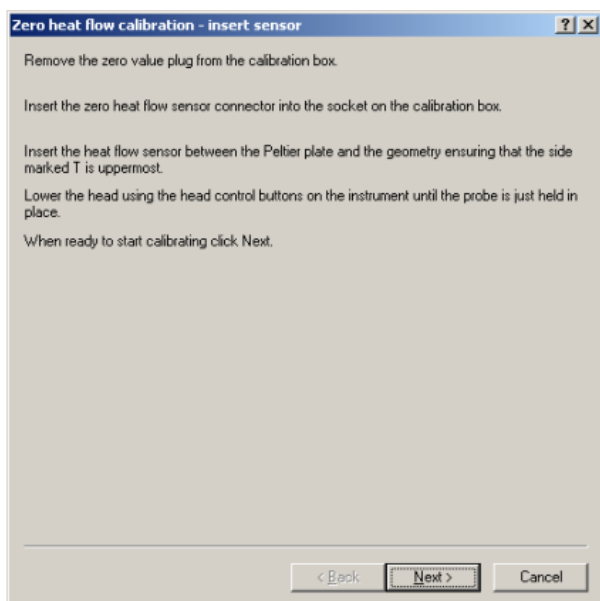
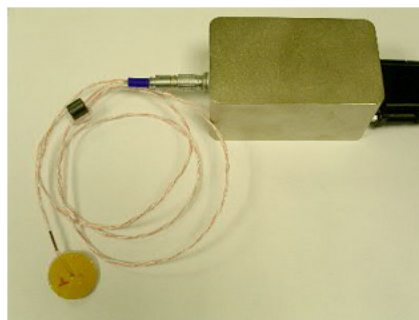
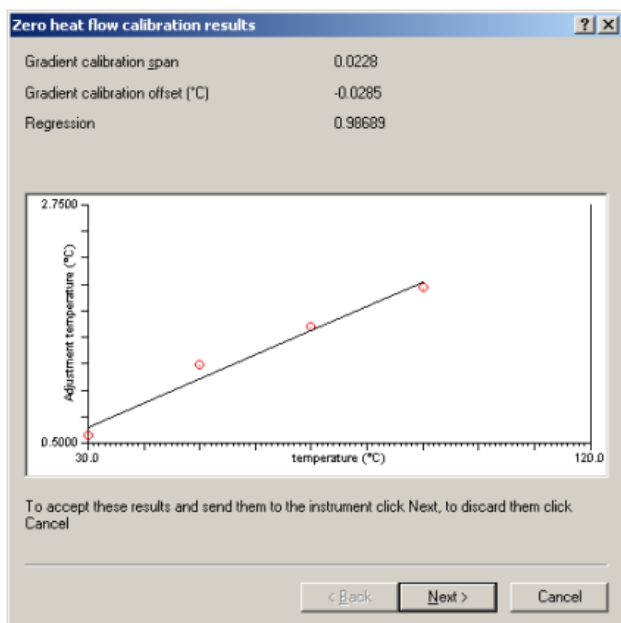

Figure 7.16
Figure 7.17
Figure 7.19
5. When the zero value calibration has been completed a window, similar to that shown in Figure 7.16, will be displayed. Follow the instructions given. The zero heat flow sensor is shown connected to the calibration box in Figure 7.17 below.
7. Click **Next** to begin calibrating as instructed (see Figure 7.16, above left). When the calibration is complete the results will be displayed as shown in Figure 7.19 (to the left).